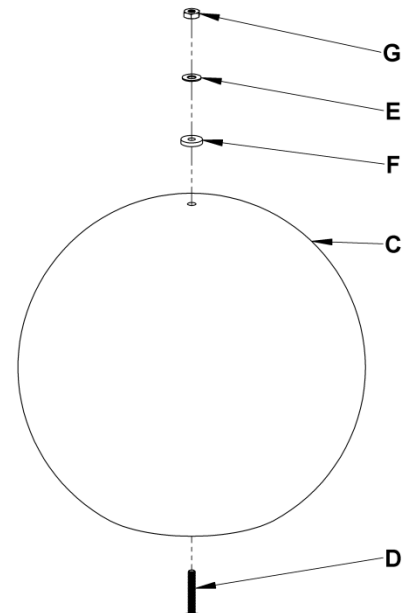

Figure 1
To Install Bulb & Glass (Figures 1 & 2)
2. Unthread cap (H) from screw (D).
3. Remove nut (G), first steel washer (E), and first rubber washer (F) from screw (D). Save for later use. *Parts ship installed.*
4. Slip screw (D) with steel and rubber washer (E&F) up through hole in glass (C).
5. Slide remaining rubber washer (F) onto screw (D) followed by steel washer (E). Thread nut (G) onto screw (D) and tighten. (Figure 1) **Note:** Due to thickness variation in the glass a second longer screw has been provided with your fixture to swap out if needed with the original screw removed from the cap.